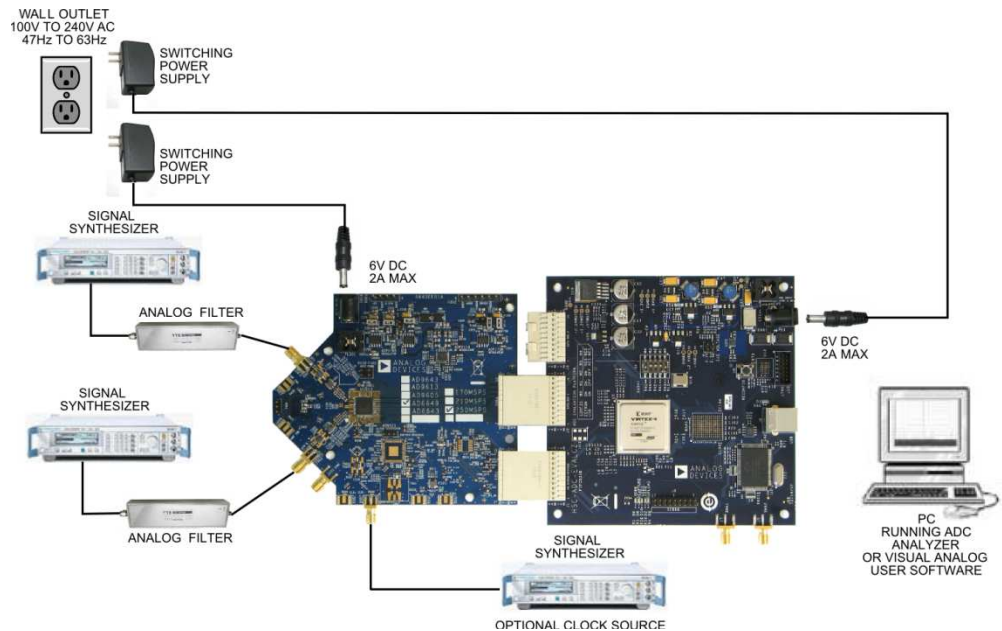

Figure 1: AD9613 Evaluation Board with HSC-ADC_EVALCZ Data Capture Board
1. Connect the AD9613 evaluation board and the HSC-ADC-EVALCZ board together as shown in Figure 1.
9. Next open the SPI Controller software. If prompted for a configuration file, select the configuration file titled AD9613spiR03.cfg. If not, check the title bar of the window to see which configuration is loaded. If necessary, choose "Cfg Open" from the "File" menu and select one of the configuration files named above. Note that the CHIP ID(1) field may be filled whether the correct SPI Controller configuration file is loaded or not.
11. Set the DCO Clk Delay Enable checkbox in the FLEXOUTPUT DELAY(17) panel on the ADCBase0 tab as shown below. In addition, set the DCO Clk Delay register to the '600ps